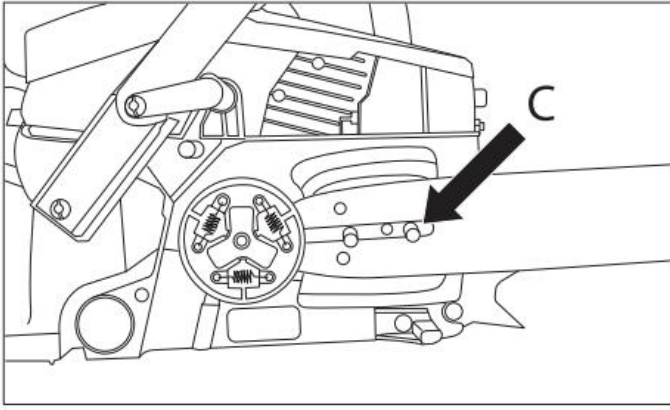

Fig. 5
4. Install the bar so that the bar slot aligns with both bolts (C) (fig. 5).